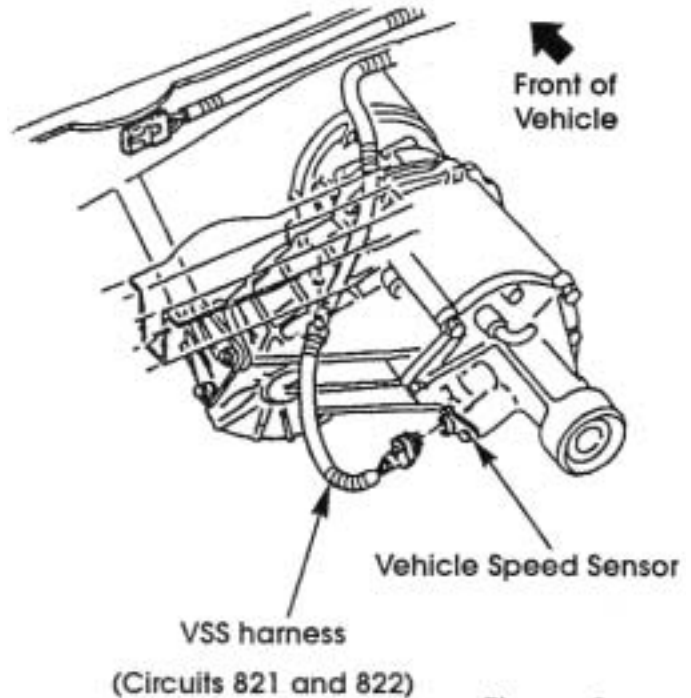

Figure 1
To perform these functions, the buffer is given a five volt signal from the vehicle's PCB on two circuits, 437 and 1697. Circuit 437 is used by the transmission shift points. Circuit 1697 is used by the PCB to determine road speed for uses such as vehicle overspeed fuel cutoff and idle air control valve position (Figure 1).
- Short to ground in VSS sensor circuit 821 or 822, on all steel drive versions. The problem is usually at the transfer case where the wiring harness is routed over the top. The harness generally rubs through on one of the flanges of the transfer case (figure 1).